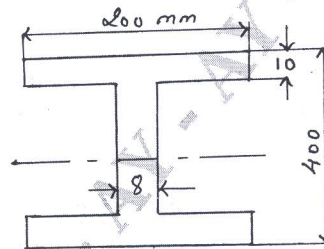

Fig.Q6(b)
b. The cross-section of a beam is shown in Fig.Q6(b). If permissible stress is 150 N/mm^2 find its moment of resistance.